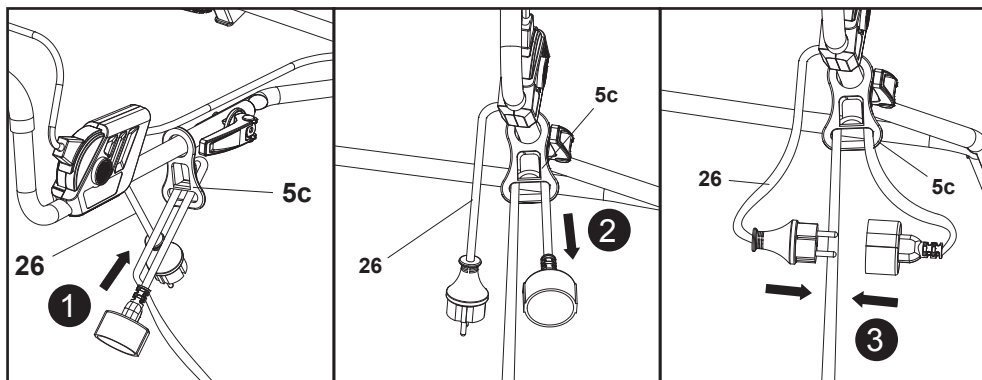

Fig. 10
1. Double the extension cord back, about 40 cm from the end and lead the loop through the hole of the cord retainer (5c) (Fig. 10, step 1) and hang the loop over the hook.
2. Pull the extension cord over the cord retainer (5c) and gently tug on the cord to ensure that it is firmly secured (Fig. 10, step 2).
3. Connect the power cord (26) to the socket of the extension cord (Fig. 10, step 3).